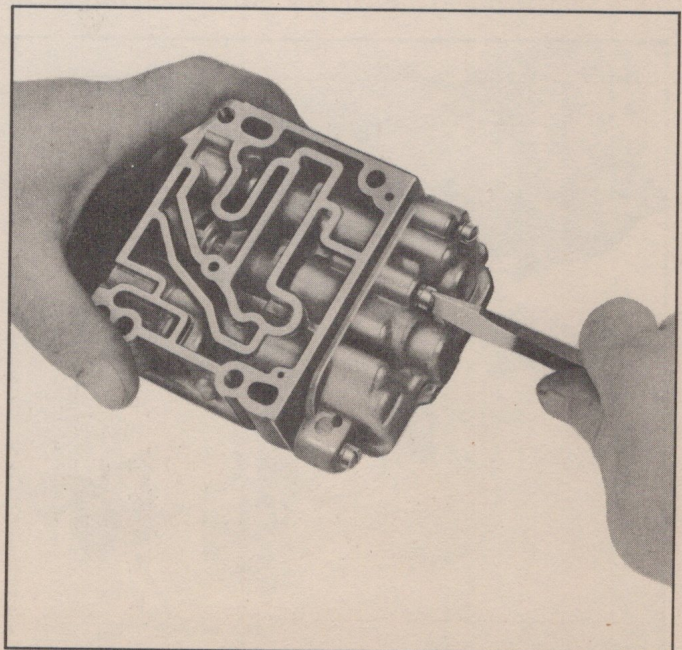

Fig. 178—Removing Front Valve Body
7. Remove three screws holding front valve body to inner valve body and remove front valve body. Hold front valve body and inner valve body together while removing screws to avoid springs jumping out of place (Fig. 178).